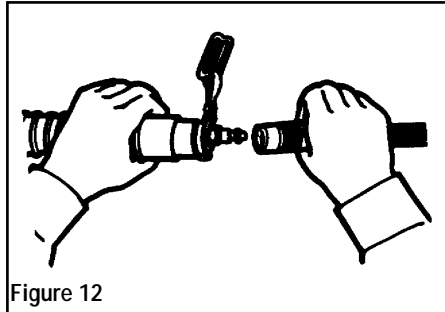

Figure 12
2. With air flowing, connect breathing tube assembly to air supply hose (see Figure 12). Connect quick-disconnect fitting on breathing tube assembly to quick-disconnect coupler on air supply hose. Once fitting is secured, release coupling sleeve to lock fittings together. Pull on both hoses to make sure they are attached securely. Check to assure air is flowing properly into the hood.